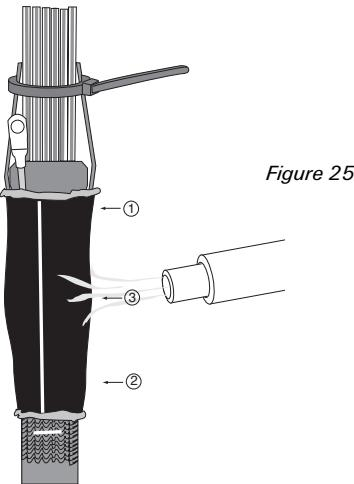

Figure 25
11. Begin shrinking the tube with the CV1981 hot-air gun on setting 6 around the top of the funnel. After recovering 1" of tube on funnel, pause for 15 seconds to allow the adhesive to set on the funnel before shrinking the bottom of the tube. (See Figure 25, steps 1,2)
12. Continue heating until the entire tube has shrunk, then apply additional heat to the lump of adhesive in the middle of the tube. When the seal is complete, the tube should be smooth and the adhesive lump should be melted. (See Figure 25, step 3) After the moisture-block has cooled, remove the tie wraps from the cable.